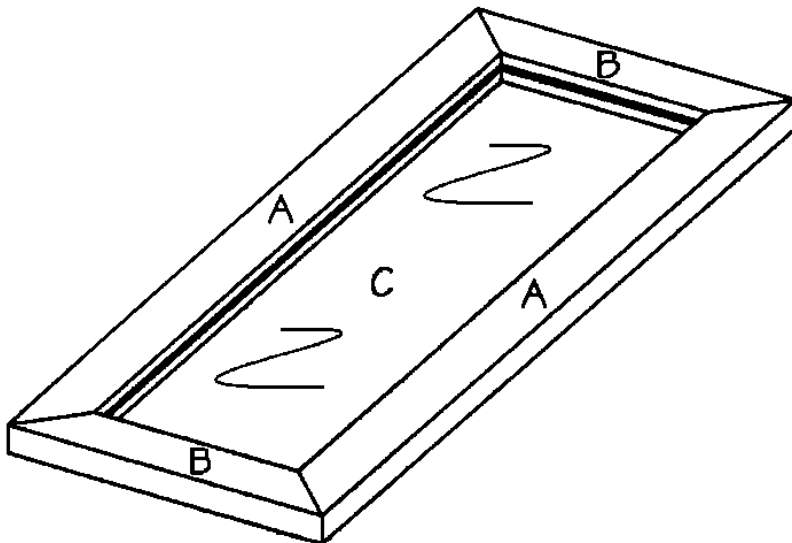

Figure 3
6. Place two vertical sides (A) on a level surface, parallel to each other and 5-1/2" apart, as shown in *Figure 3*. Fit two horizontal sides (B) between the ends of the vertical sides (A), matching miters. Fit one side glass (C) into the dadoes cut in all four sides. Make certain that the assembly is square. Apply glue to the miters, and use corrugated fasteners across each of the corner joints to secure them. You may choose to clamp these pieces together while you drive 1-1/2" 4d finishing nails into the edge near each corner and across the miter joint. Use two opposing nails at each joint.
6. Place the two door sides (G) on a level surface, parallel to each other and 14-7/8" apart, in the same manner as shown in *Figure 3*. Fit two door top/bottoms (H) between the ends of the door sides (G) matching miters. Fit one door glass (I) into the dados cut in all four pieces. Make certain that the assembly is square, and use corrugated